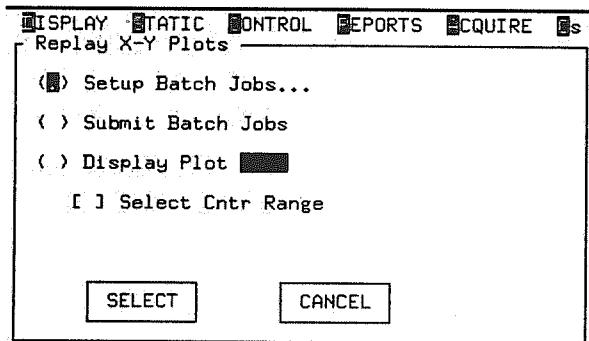

Figure 12-18 Dialog Box used to Select the Replay XY Plot Function of Interest
- Step 1)** Select **Graphs, Replay X-Y Plots** option. The dialog box shown in **Figure 12-18** is displayed.